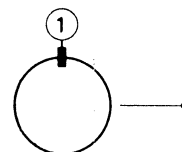
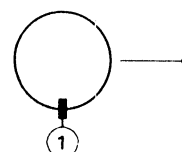

Fig. 5a
Fig. 6a
3. Eliminate the crossing of the central horizontal blue and red line and the crossing of the central vertical blue and red line, by vertical tilting of the deflection unit. If the position of the deflection unit is correct, then place rubber wedge 1, paper strip not removed, at the top (Fig. 5a) or at the bottom (Fig. 6a). Fig. 5a is applicable if the deflection unit is tilted upwards and Fig. 6a if the unit is tilted downwards.